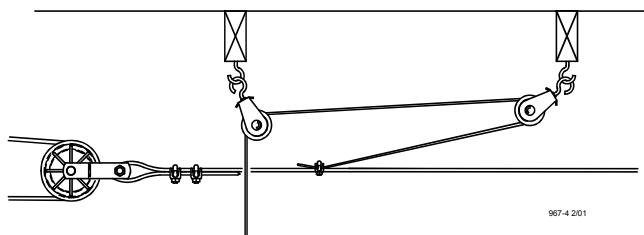

Figure 18. "Throwback" cable arrangement
3. Allow enough cable length for installation of the Adjustment Leveler. Sufficient cable is included to provide "throwbacks" on drops located beneath and near the winch. **Figure 18** shows a "throwback" cable arrangement.